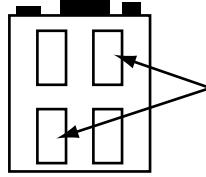

Figure 7-6 1989–95 Tracker connector jump pins
- Jump pins as shown in Figure 7-6 on the connector near the left side of the engine.